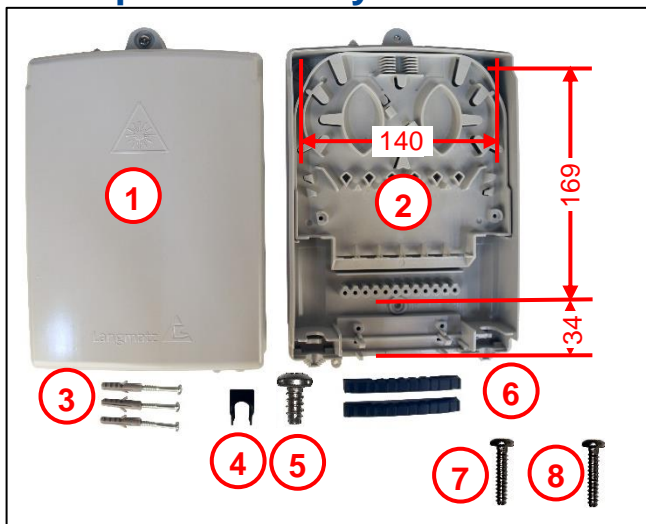

Fig. 1
Dimensions for screw connection points as shown in Fig. 1.
- Mount the housing onto the wall. Before drilling holes beware of existing utilities (gas, water, electricity). Refer to Fig. 1 for the provided mounting holes.